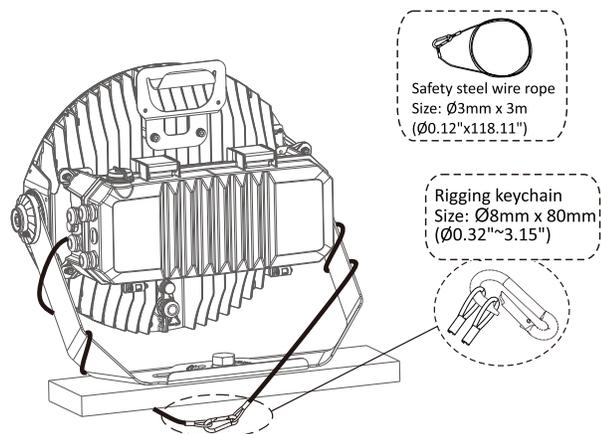

Fig. 36
1. Feed the safety cable under the driver box and wrap around the yoke mount so that it's secure to the mounting surface (Fig. 36).